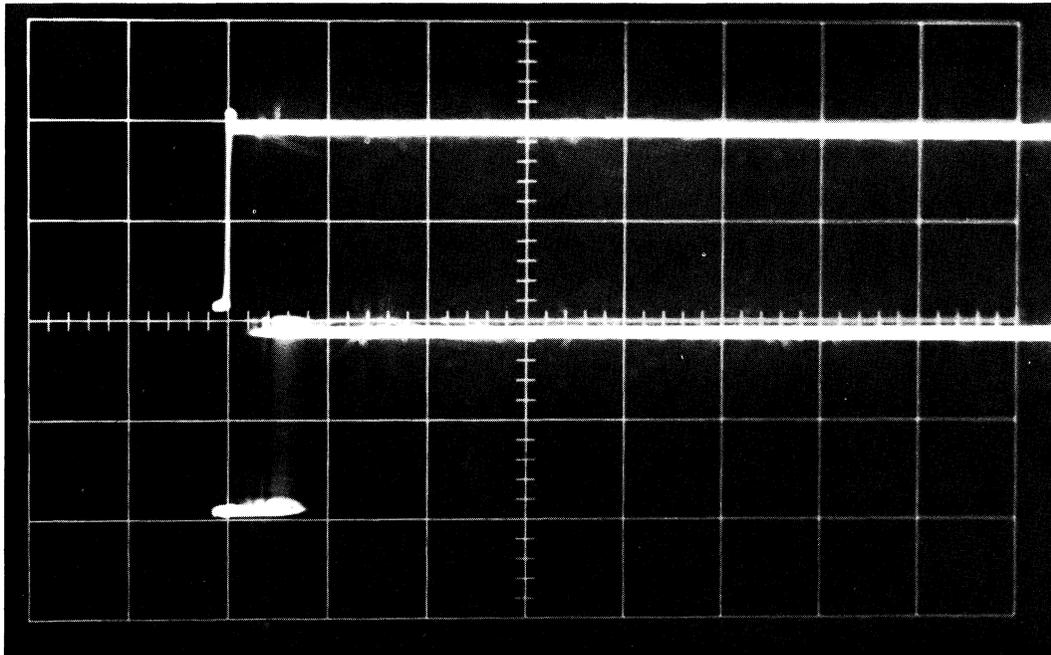

Figure 5-12 Read Skew
- 8 Each Read Buffer flip-flop must be in the “one” state within 1 μ s after Set Skew Gate B26R (see Figure 5-12).
8	Each flip-flop should be in the "one" state within the 1- μ s skew tolerance after Set Skew Gate (B26R) (see Figure 5-12).